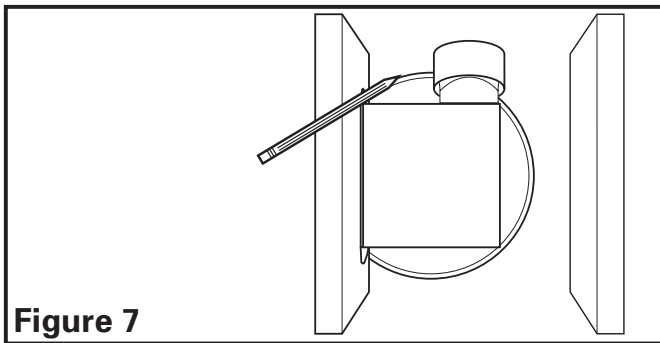

Figure 7
- 1b. **Mounting Tab Installation:** Position housing against the joist and trace an outline of the housing onto the ceiling material (**Figure 7**). Set housing aside and cut opening, being careful not to cut or damage any electrical or other hidden utilities. Place housing next to the joist and insure that it is flush with the finished ceiling. Secure with four screws or nails (not provided) to ensure proper installation (**Figure 5**).